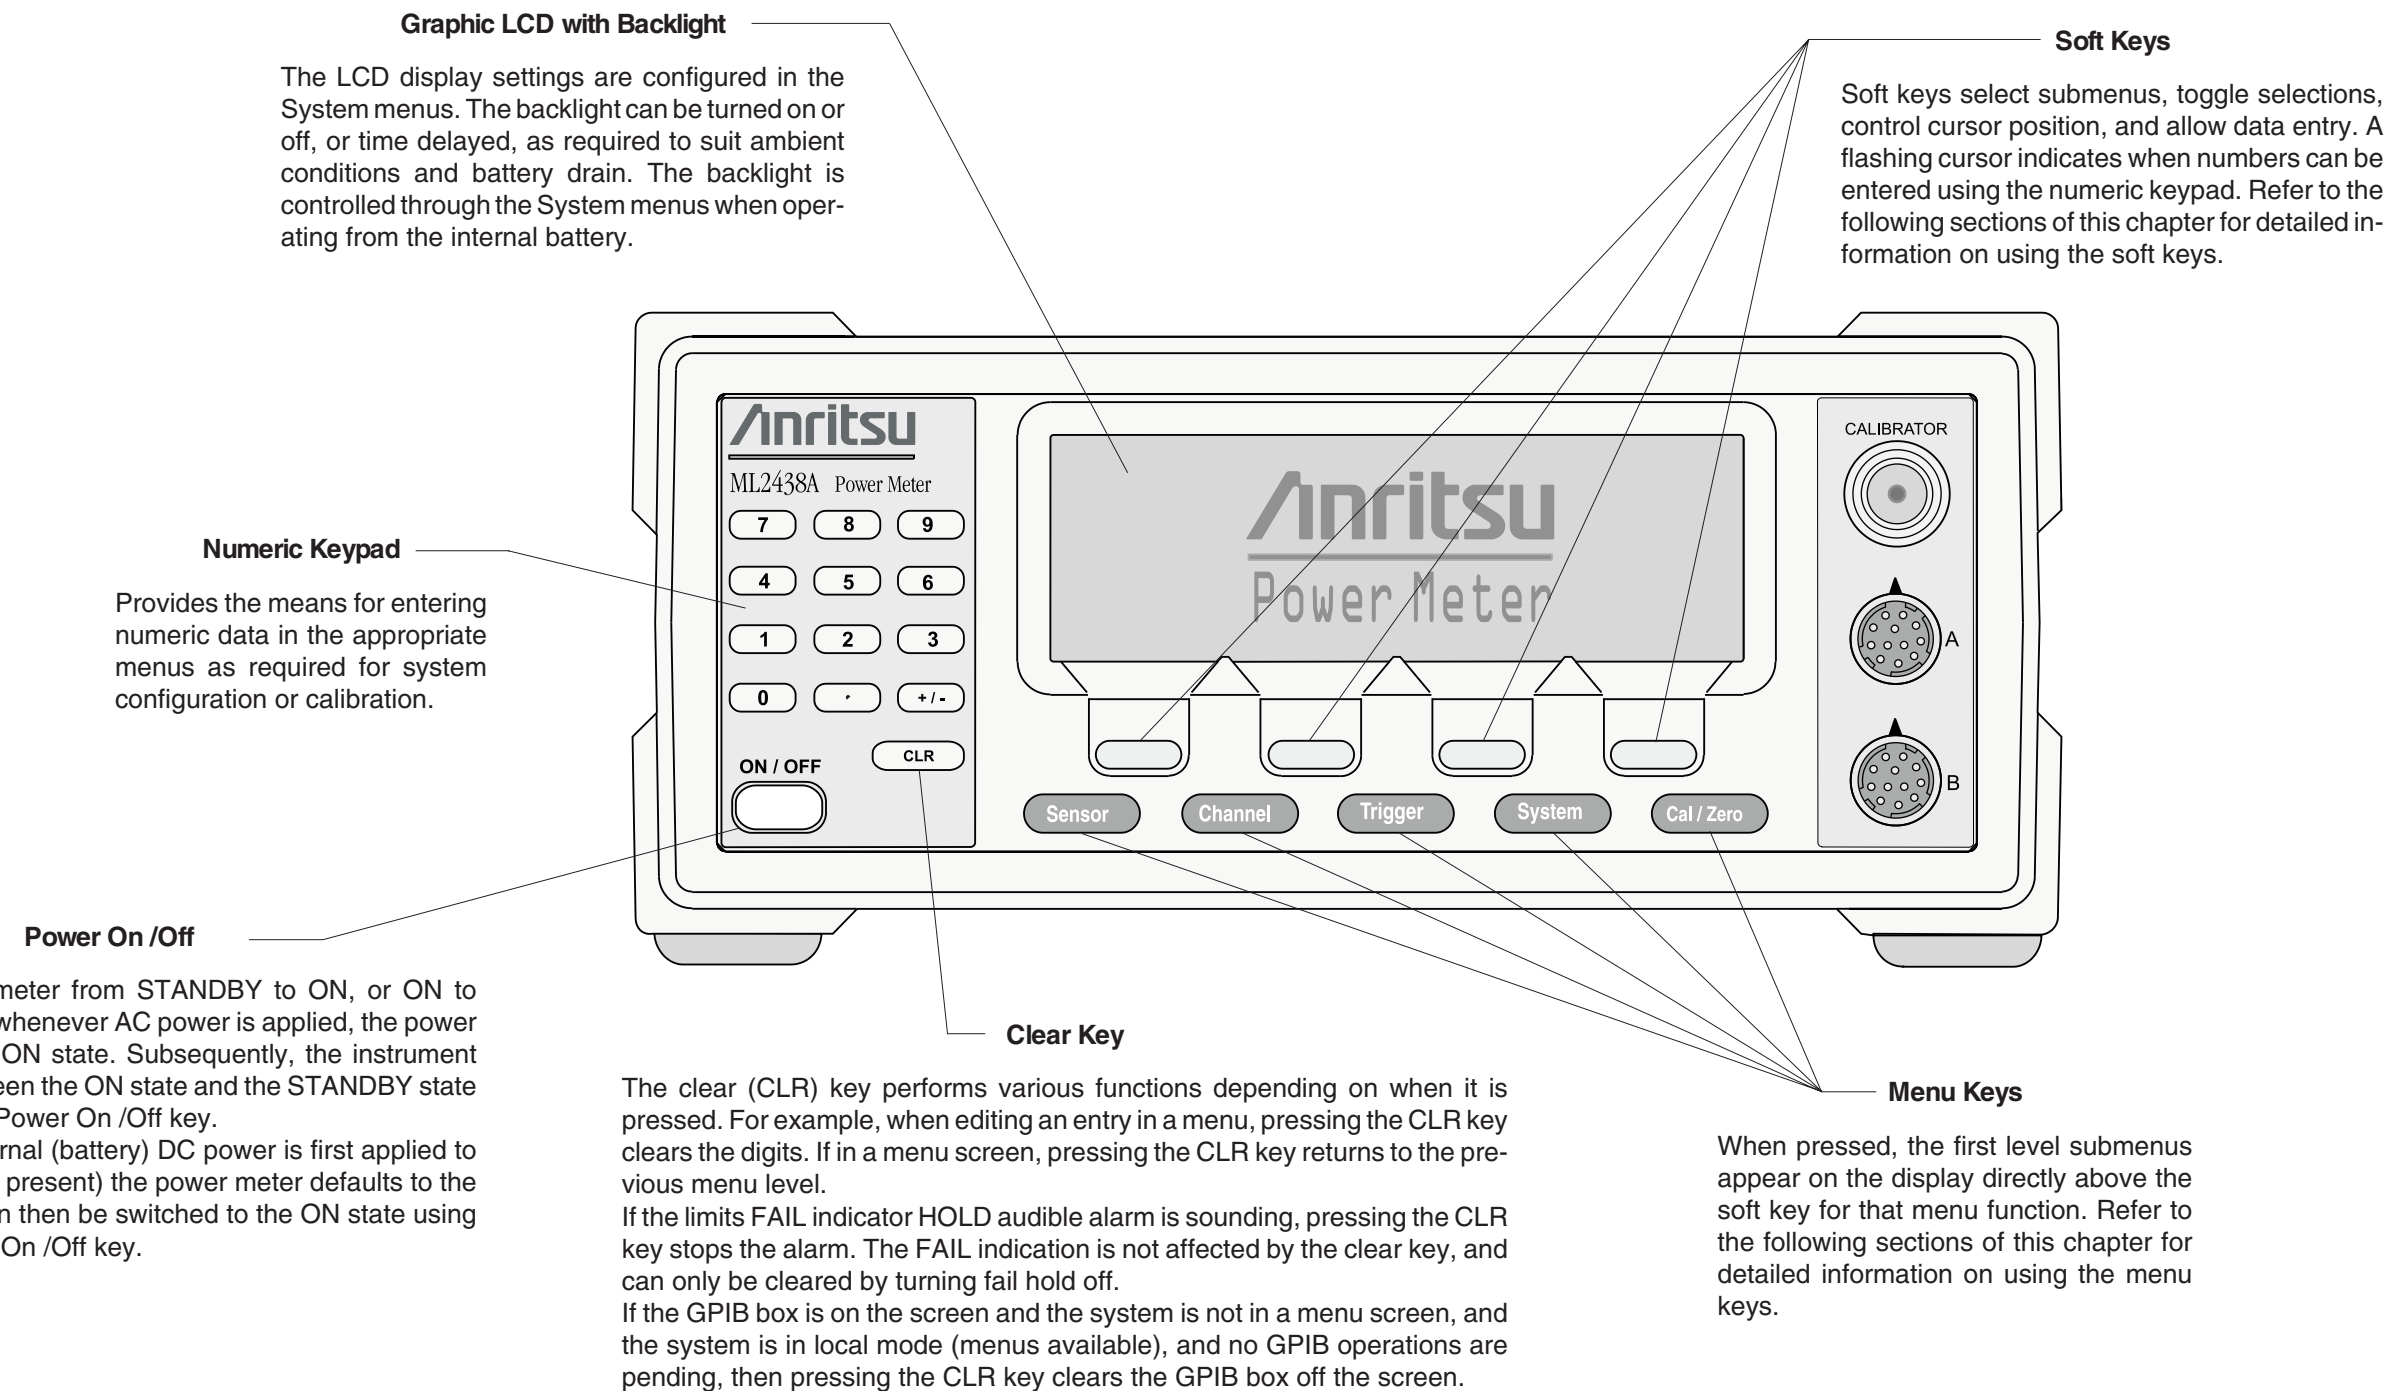

Figure 4-1. ML2430A Series Front Panel Controls
**4-2 FRONT PANEL CONTROLS** The front panel controls are shown and described in Figure 4-1. The following sections provide more detailed explanations of the Menus and soft keys.